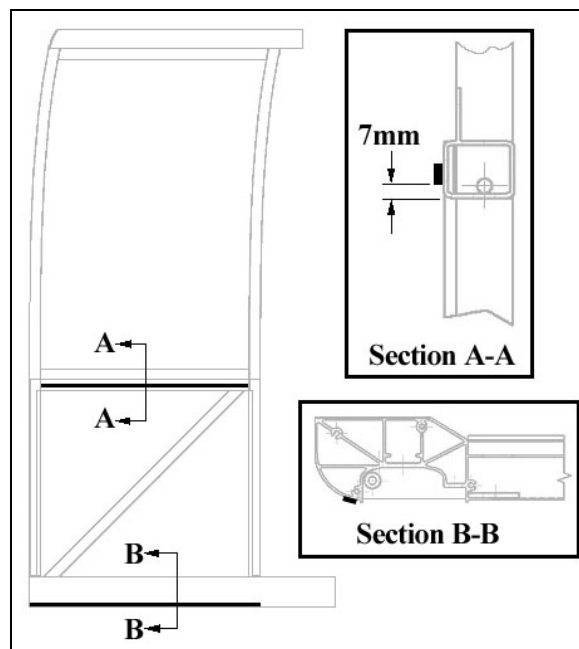

FIGURE 41 : SIDE PANEL INSTALLATION – DOUBLE FACE ADHESIVE TAPE APPLICATION ON THE SLIDE-OUT STRUCTURE
2. Refer to figure 41 for 1/16x1/4 double face adhesive tape location on structure;